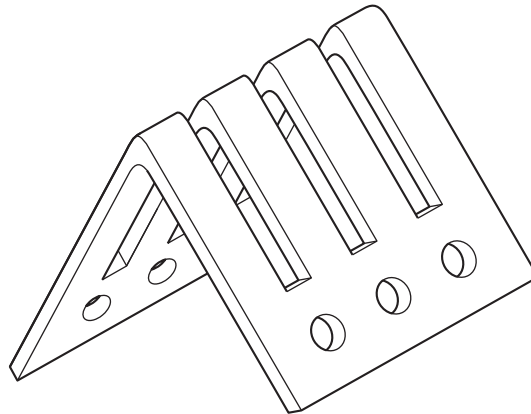

Fig. 8
Fig. 8 shows a toast rack to be used in a chain of hotels.
(a) Give **four** justified design requirements for the toast rack to be used in a chain of hotels shown in Fig. 8.
- (e) (i) State a **suitable specific material** for the toast rack shown in Fig. 8 and give **two** properties or characteristics that make the material suitable for this use.
- (ii) Describe, in detail, how the toast rack shown in Fig. 8 would be manufactured as a batch of 50,000. Include details of specialist tooling used.